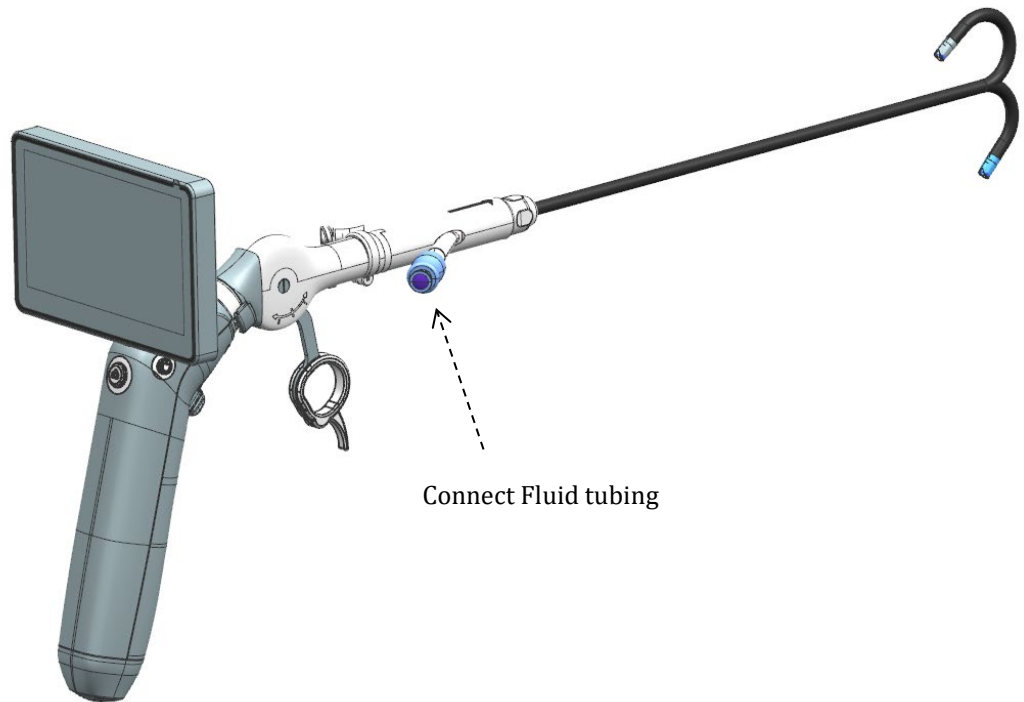

Figure 3. Connect tubing
- 5.3.3. Connect tubing from the source of the fluid to the Luerlock connector port on the side of the cystoscope's disposable cannula. See figure 3.